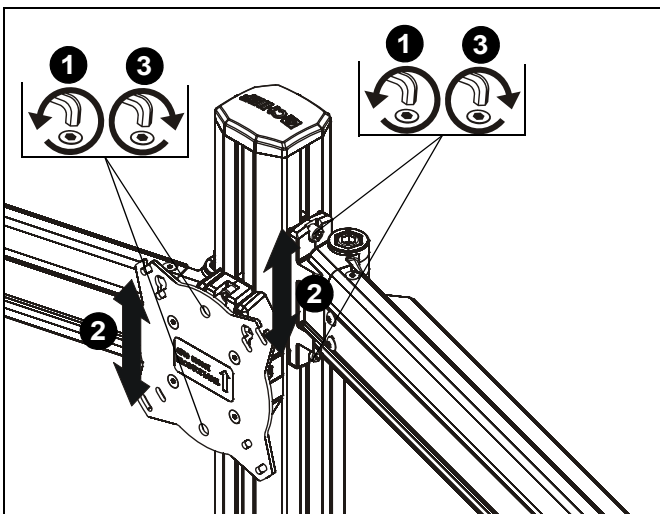

Figure 22
NOTE: Height adjustment for center displays should be set prior to installing display. Due to the location of the height adjustment screws for the center displays, the center displays will need to be removed in order to adjust the height. (See Figure 22)
- Loosen height adjustment screws for specific display that will be adjusted. (See Figure 22)
- Adjust arm or display to desired height. (See Figure 22)
- Tighten height adjustment screws to lock display's position. (See Figure 22)